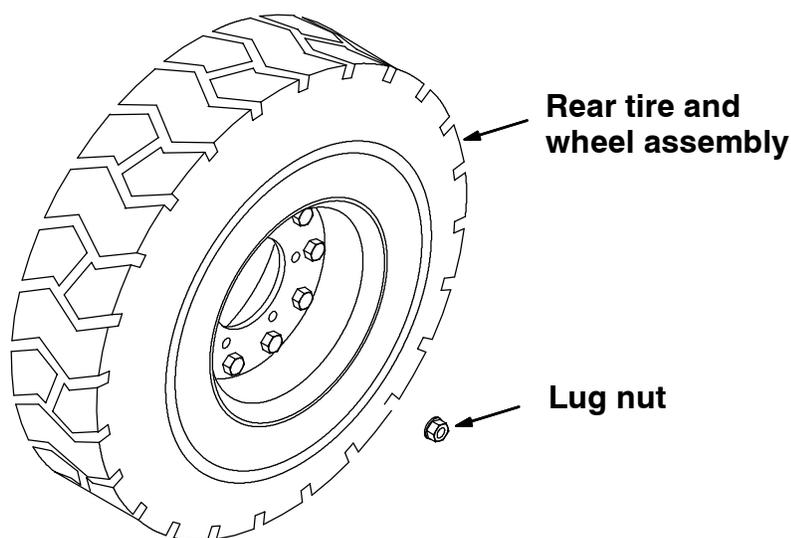

FIG. 1 - Rear Tire And Lug Nut
3. Remove the rear tire and wheel assembly. (Refer to FIG. 1)
15. Reinstall the rear tire and wheel assembly. Tighten the six wheel nuts to 122 - 142 Nm (90 - 105 ft lb). Use a crisscross pattern when torquing wheel nuts. (Refer to FIG. 1)